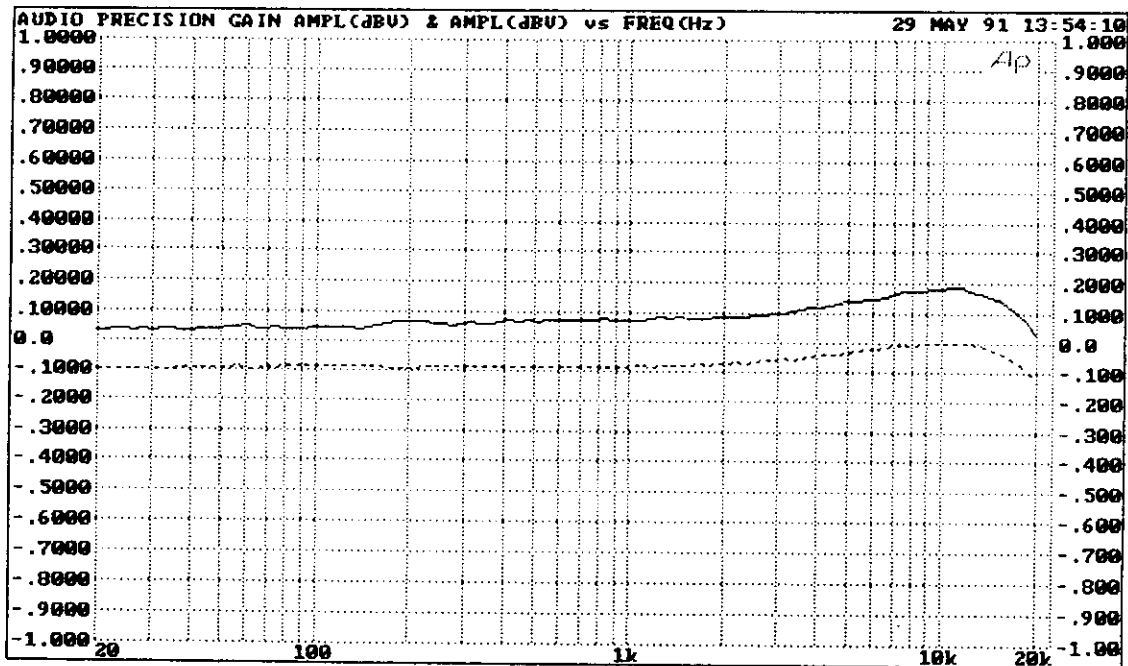

Figure 3: Frequency Response (Left Channel ———, Right Channel -----)
- 2) Check response at 20Hz and 20kHz (+0, -0.5 dB). See Figure 3.